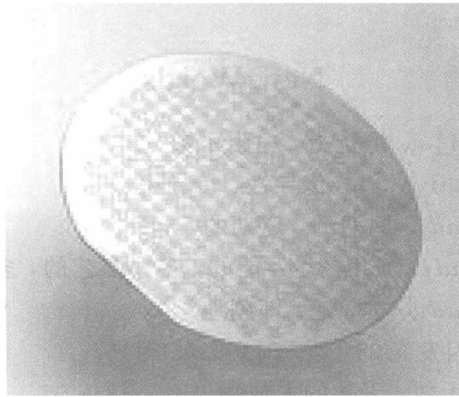

Figure 1-1 A piece of silicon wafer
To keep pace with the growth in IC processing technology, chip size and circuit complexity, silicon crystal and wafers have to be prepared with sustaining increases in diameter and improvements in performance. Silicon used in semiconductor devices manufacturing is currently fabricated into boules that are large enough in diameter to allow the production of 300 mm (12 inch) wafers. Figure 1-1 shows a piece of silicon wafer. Ultra large scale integration (ULSI) ICs, fabricated with design rules approaching 60 nm, have to depend on the availability of highly perfect single crystals, which are prepared exclusively from silicon pulled from the melt by the Czochralski (CZ) technique [2].